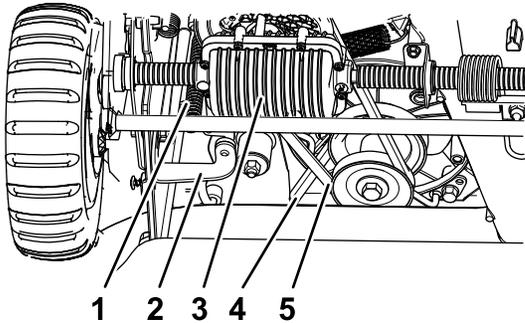

Figure 30
- A. Loosen the bracket and allow the bracket to drop (Figure 30).